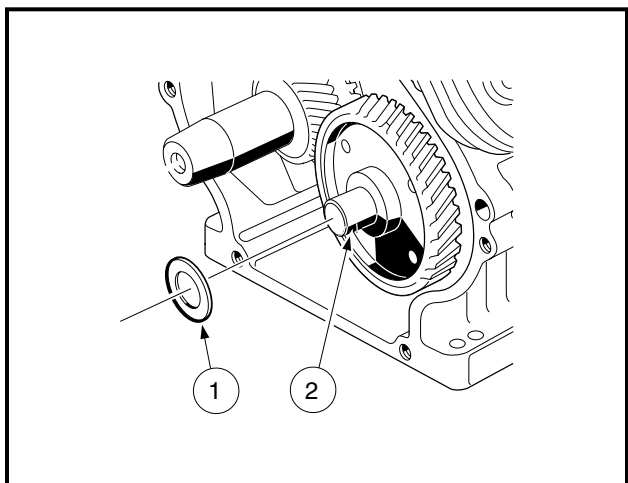

Figure 13-103 Install Shim on Camshaft
5. Install the shim (1) on the camshaft (2) (**Figure 13-103, Page 13-47**).